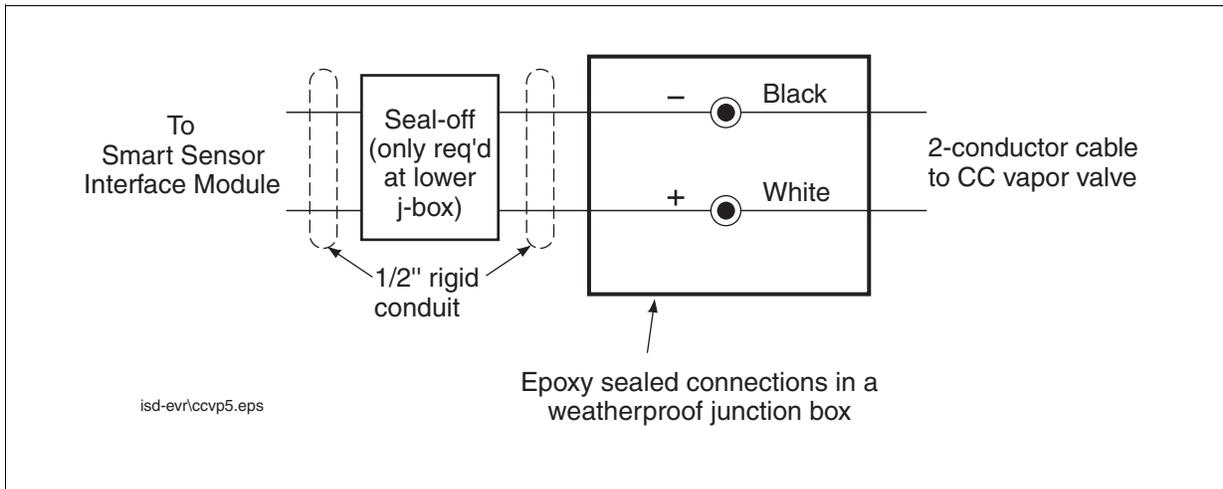

Figure 5. Field wiring CCVP vapor valve
11. Connect the white wire of the two conductor cable from the vapor valve to the positive sensor wire from the TLS Console Smart Sensor Interface module (see Figure 5). Connect the black wire on the two conductor cable to the negative sensor wire from the TLS Console Smart Sensor Interface module.